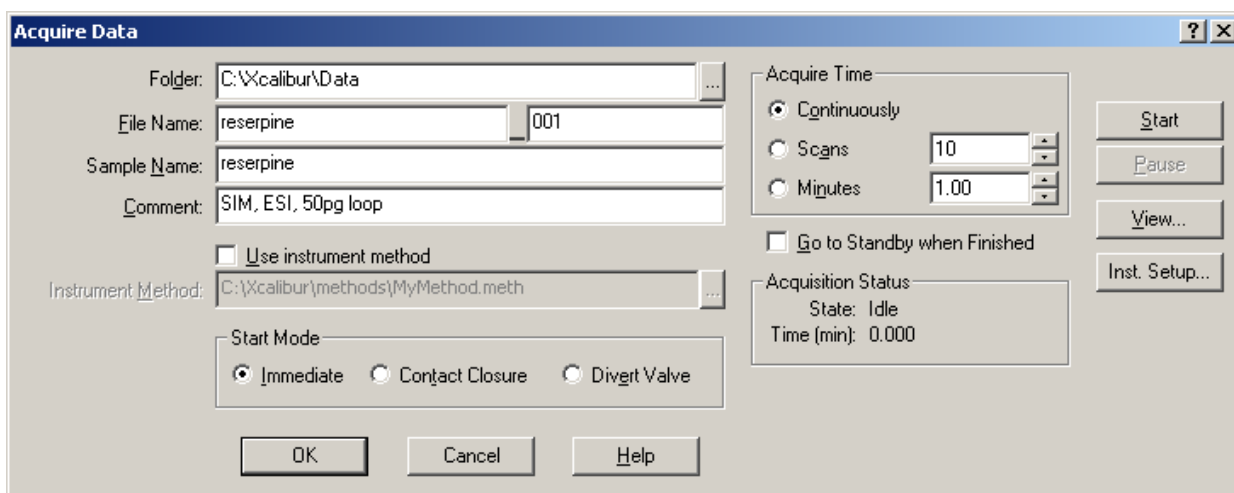

Figure 5-10. Acquire Data dialog box, showing typical settings for acquiring data
5. On the Control/Scan Mode toolbar, click on the Acquire Data button to open the Acquire Data dialog box. See Figure 5-10.